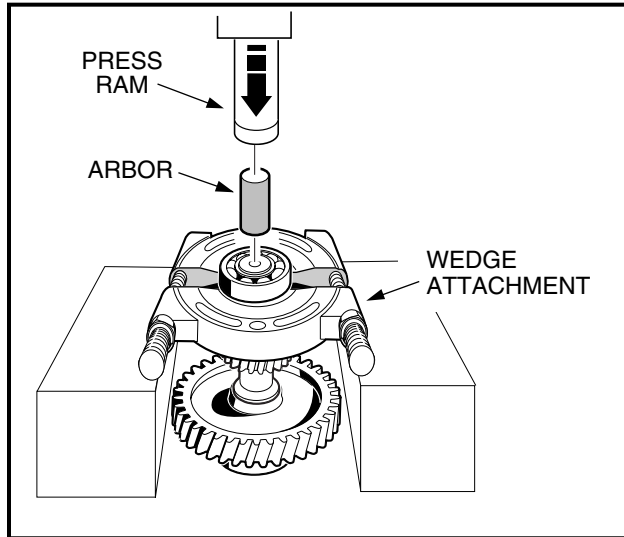

Figure 5-20 Remove Bearing
1. Place bearing puller wedge attachment (CCI P/N 1012812) between bearing (38) and shaft/gear (56) (**Figure 5-11, Page 5-7**), then press bearing off shaft (**Figure 5-20, Page 5-13**). **See following CAUTION.**